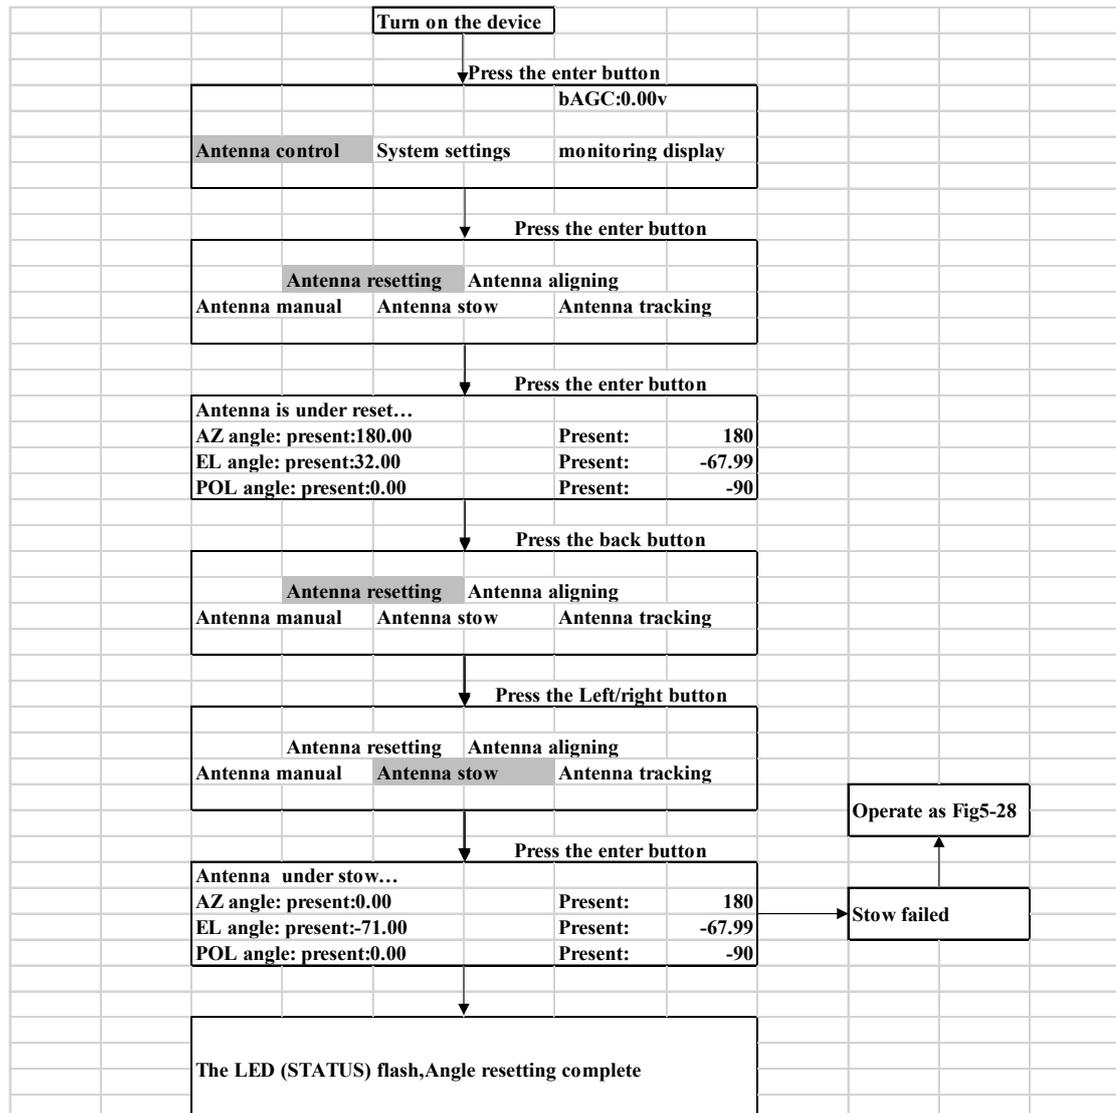
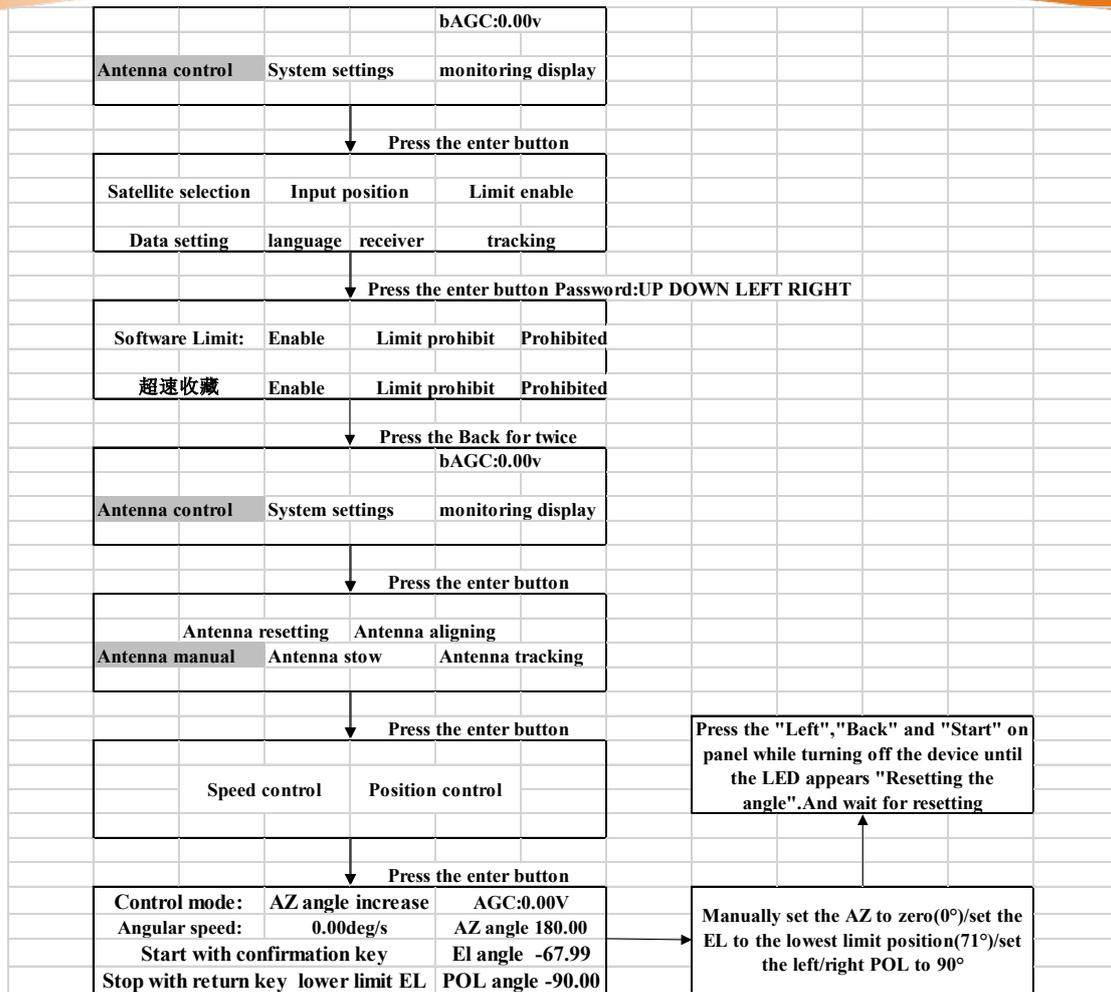

Fig 5-27 Method 2 of angle reset
Fig 5-28 Manual adjustment
- After restarting, reset the antenna, and then store the antenna to cancel the alarm, as shown in Figure 5-27. If the stow is not completely in place, please find the "enable switch" (password: up, down, left, and right) in the menu list to turn on the limit prohibition. Manually adjust the azimuth angle to the zero position/elevation angle to the stowed position, and the status indicator lights up to complete the angle reset, as shown in Figure 5-28.